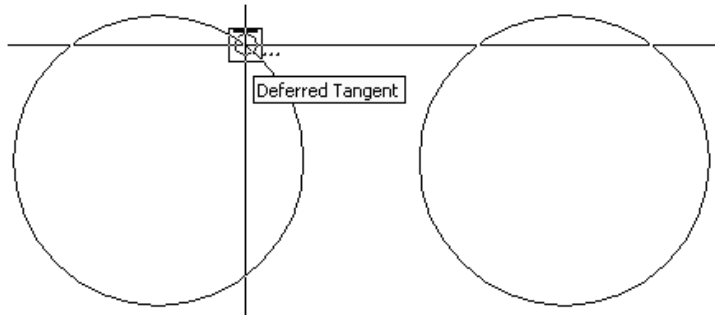
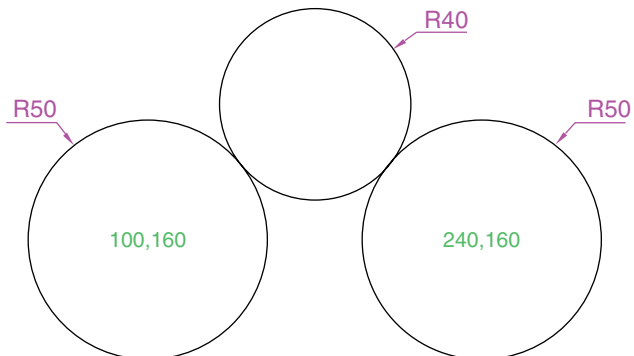

Fig. 2.14 Second example – **Circle** tool – the two circles of radius 50
Fig. 2.15 Second example – **Circle** tool. The radius-40 circle tangential to the radius-50 circles
Second example – Circle tool (Fig. 2.14)
2. *Left-click* on the **Circle** tool icon and construct two circles as shown in the drawing Fig. 2.14 in the positions and with the radii shown in Fig. 2.15.
The radius-40 circle tangential to the two circles already drawn then appears (Fig. 2.15).